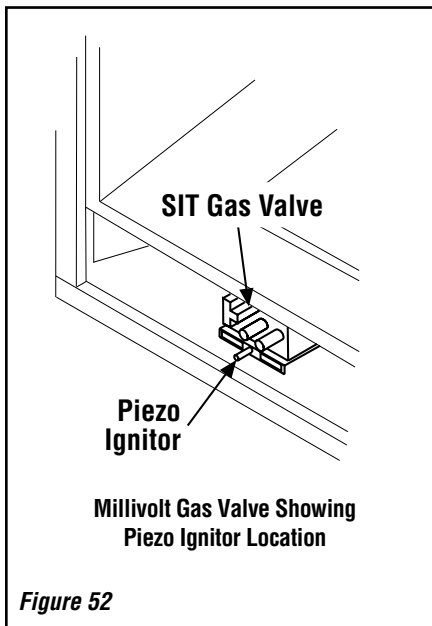

Figure 52
To access the valve open the lower control compartment door (*see Figure 52*) by pushing in the right top corner of the door. (The door is hinged at the bottom.) Remove the bottom compartment door by sliding the hinge pin, located at the door's left side, to the right until it disengages from the left corner post hole. Pull the door diagonally to the left, away from the fireplace.
**Note:** Lighting Instructions are also found on the literature tag tied to the gas piping next to the gas valve. To access the tag, open the lower control compartment door (**Figure 52**) by pushing in simultaneously the left and right top corners of the door. (The door is hinged at the bottom). Remove the bottom compartment door by sliding the hinge pin, located at the door's left side, to the right until it disengages from the left corner post hole.